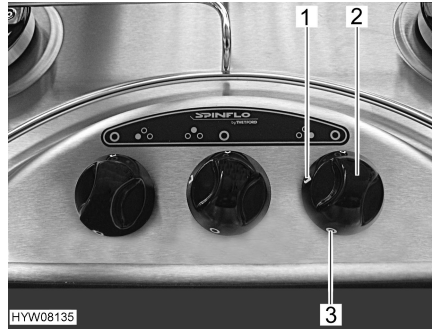

Fig. 61 Operating controls for gas cooker
- Turn the control knob (Fig. 61,2) on the burner you wish to use to the ignition position (large flame, Fig. 61,1).
- Turn the control knob to the 0-position (Fig. 61,3). The flame fades.